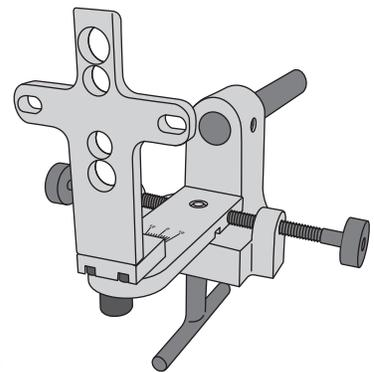

Figure 3
- Attach the Transfer Fixture to your Hosmer VFJ (**52056**) by removing the fixture for the SACH foot adapter and replace it with the Transfer Fixture. This will allow adjustments on the VFJ and angle adjustment within the Transfer Fixture (Figure 3).